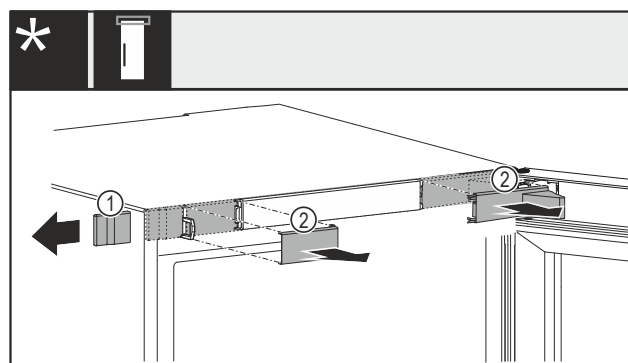

Fig. 14 With mechanical or electric lock*
- Carefully remove the cover Fig. 14 (1) from the side.*
- Carefully remove the covers Fig. 14 (2) towards the front.*